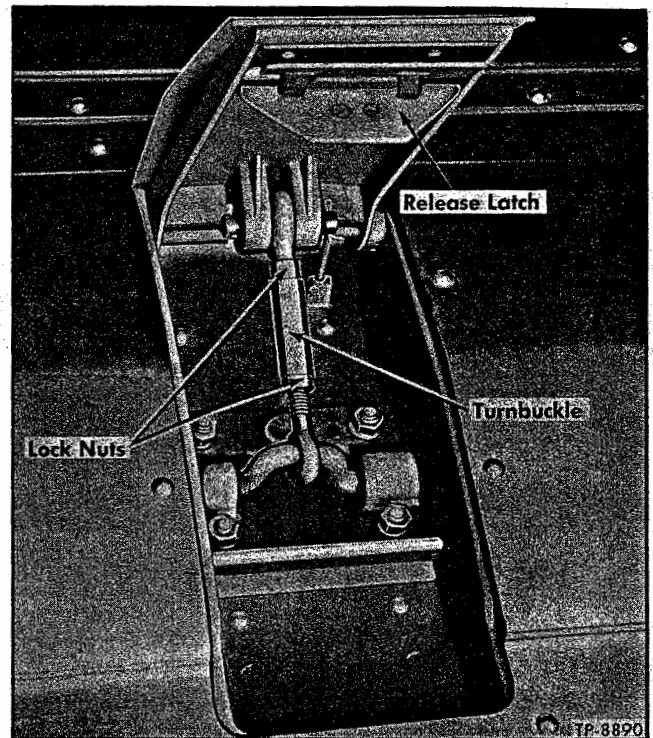

Figure 3—Compartment Door Release Latch
Baggage, air conditioning, and electrical compartment doors, incorporate flush type latch locks as shown in figure 3. Lock operating latch is flush mounted at center rub rail portion of each door. Insert fingers under operating latch; then pull outward and up to unlatch door. To close door, hold door in closed position with operating latch in open or outward position; then release and push down on latch to secure door.
1. Loosen two lock nuts (fig. 3) securing turnbuckle on release latch control link.